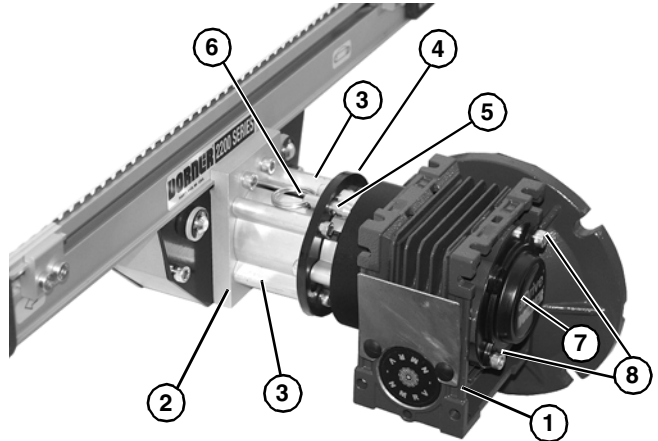

Figure 12
3. Raise gearmotor assembly (**Figure 12, item 1**) into position on shaft (just installed) and on mounting block (**Figure 12, item 2**). Install two long side drive couplings (**Figure 12, item 3**) and mounting ring (**Figure 12, item 4**) with four M6x70 socket head screws (**Figure 12, item 5**). Tighten screws to 60 in-lb (7 Nm).
4. Install quick release pin (**Figure 12, item 6**) into mounting ring to secure position.
5. Install motor onto gearmotor assembly (**Figure 12, item 1**). Tighten M6 motor mounting screws to 60 in-lb (7 Nm).
6. Install cover (**Figure 12, item 7**) with two M4 socket head screws (**Figure 12, item 8**). Tighten screws enough to secure cover.